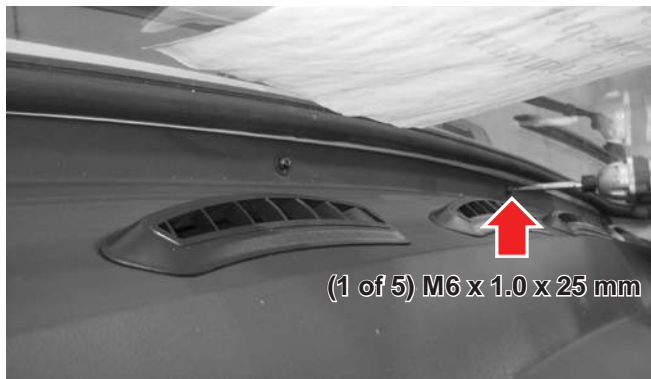

Figure 15-1
2. Reinstall the screws and washers (see Figure 15-1).